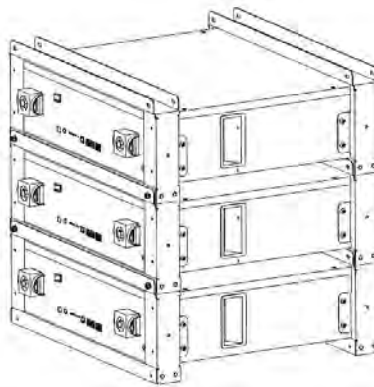

Figure 3-7
5. Stack the required number of battery and bracket combinations as described above, and fix the screws, twisting force keeps 9.8N·m. Shown as Figure 3-7.